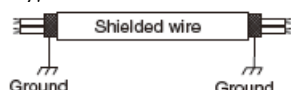

Fig.9-6
- (5) Use shielded wires for inter-unit control wiring(c) which shielded woven mesh grounded on both sides, otherwise misoperation from noise may occur.(Fig.9-6)